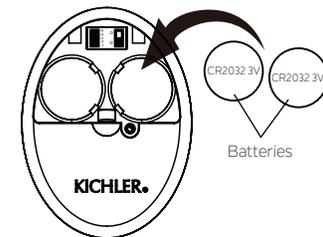

Fig. 27
Step 3. To make fan operational, install two 3V CR2032 batteries (included). (Fig. 27)